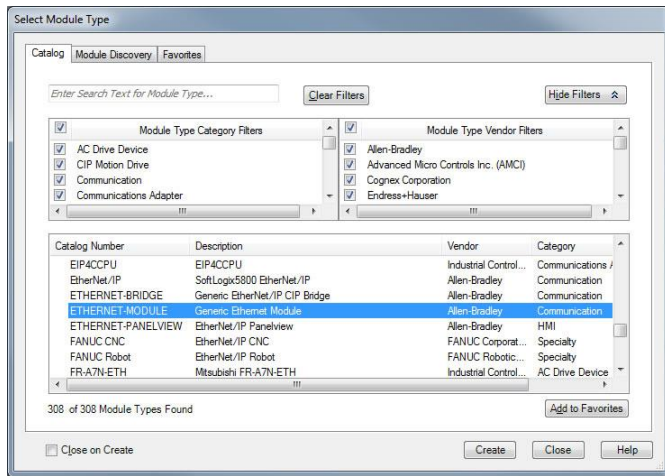

Figure 24: Adding a New Generic Ethernet Module
- 18) Choose "Generic Ethernet Module" in the Select Module dialog box and click "Create". Refer to Figure 24.